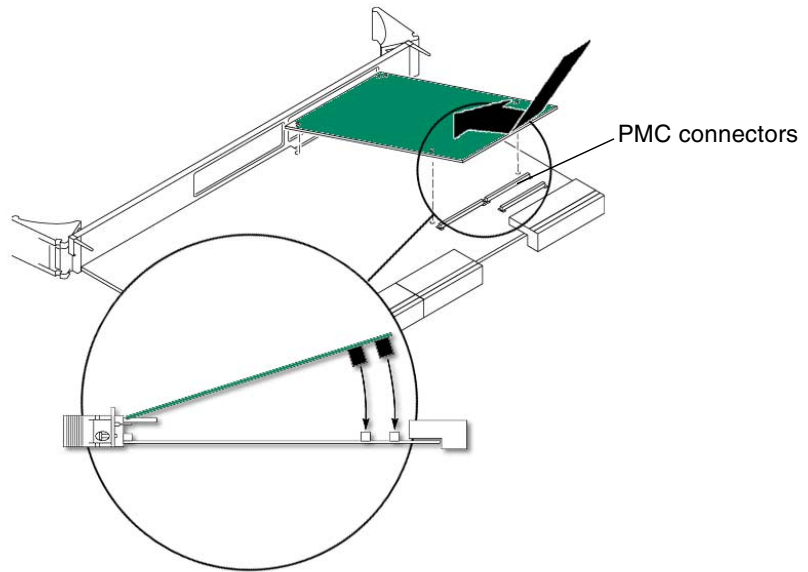

FIGURE 2-7 Installing the PMC Card
7. Insert the PMC card at an angle into the appropriate PMC slot (FIGURE 2-7).